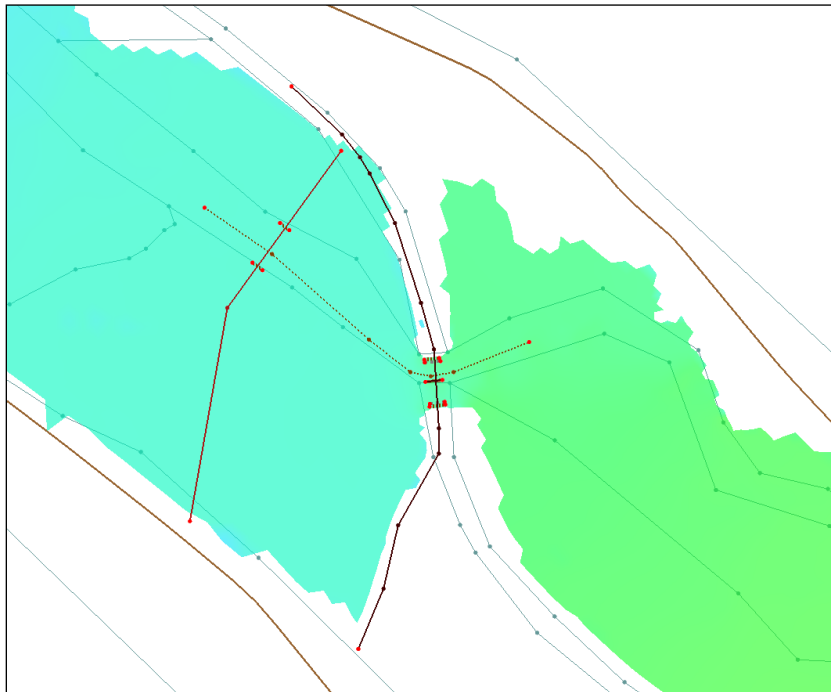

Figure 9 All of the bridge scour arcs visible
8. **Zoom**  into the area shown in Figure 9.
The project should appear similar to Figure 9.